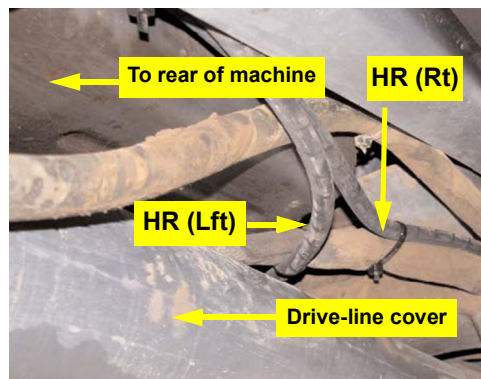

Figure 5b: Steering hoses routed to steering block
- b. Route the left steering hose over the top of the front drive-line cover to the right side of the machine (Figure 5b).